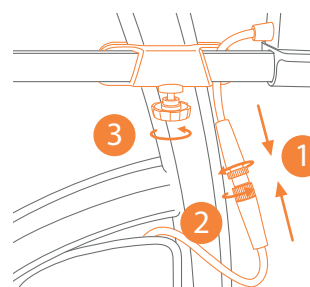

Figure 12: Connect (1&2) and tighten (3) the knob.
- b. Reconnect the cable (1)(2), and tighten the controller by rotating the knob clockwise (3) (**Figure 12**).